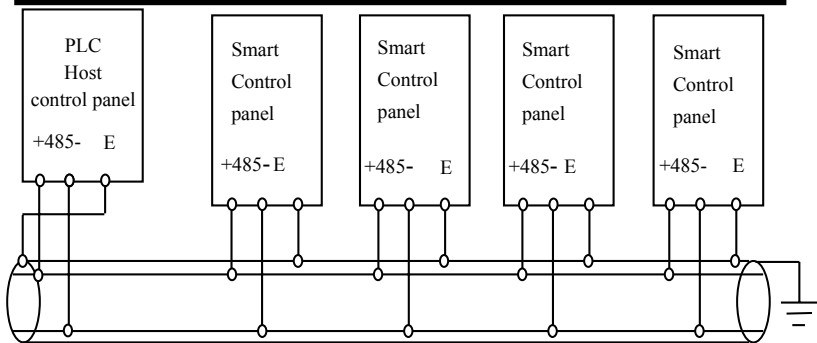
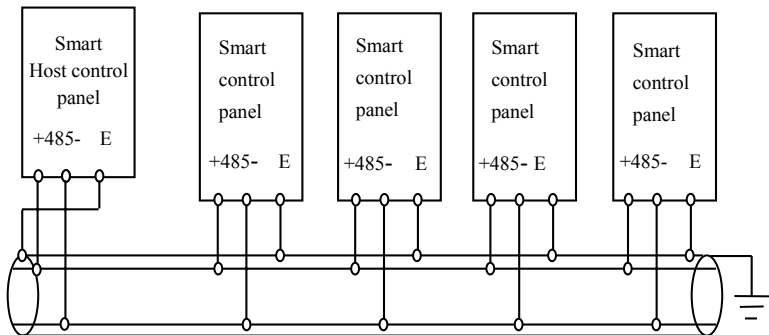

Fig.3-21 The Wiring When PLC communicate with Multiple Inverters (Inverter and Motor are grounded well)
Fig.3-22 Wiring of Multiple Inverters Communicating (Inverter and motor are grounded well)
- (3) RS485 can connect multiple inverters together, which is controlled by PLC (or upper computer), seen in Fig. 3-21. One inverter acts as host and others act as slave machine, seen in Fig.3-22. With the number of inverters increasing, communication system is more easily disturbed. Wiring is recommended below: